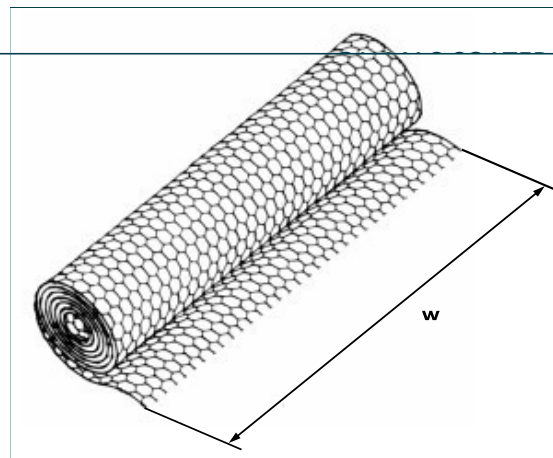

Figure 1
- size of rolls (length x height, see Fig.1),